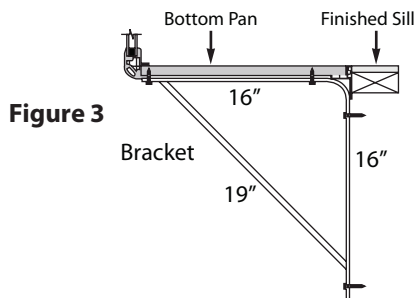

Figure 3
3. Center the Simonton Windows® Greenhouse Window in rough opening allowing equal clearance on both sides and top. Bottom pan should line up with the finished sill height, allowing for any inside additional material such as tile (see Figure 3). Attach window to jambs, sill and header with screws long enough to penetrate through any furring strips and at least 1-1/2" into framing, every 12". A ribbon of caulking between the frame and flashing is a must.
4. On 5'-0" to 6'-0" wide windows, support bracing is required on each end of the window (Warranty will be void without proper support). These supports can be constructed as part of the wall framing or metal support brackets may be fabricated to adequately support the window. Fasteners to be supplied by installer (1/4" x 3" lag screws are suggested for wall mounting). Brackets must attach to the vertical studs below the window (see Figure 3).
5. Fastening the bracket to the bottom pan is not necessary. If fasteners are desired, the MAXIMUM screw length will be 3/4" as shown in Figure 3. Use caution when attaching as not to penetrate the inside pan surface.